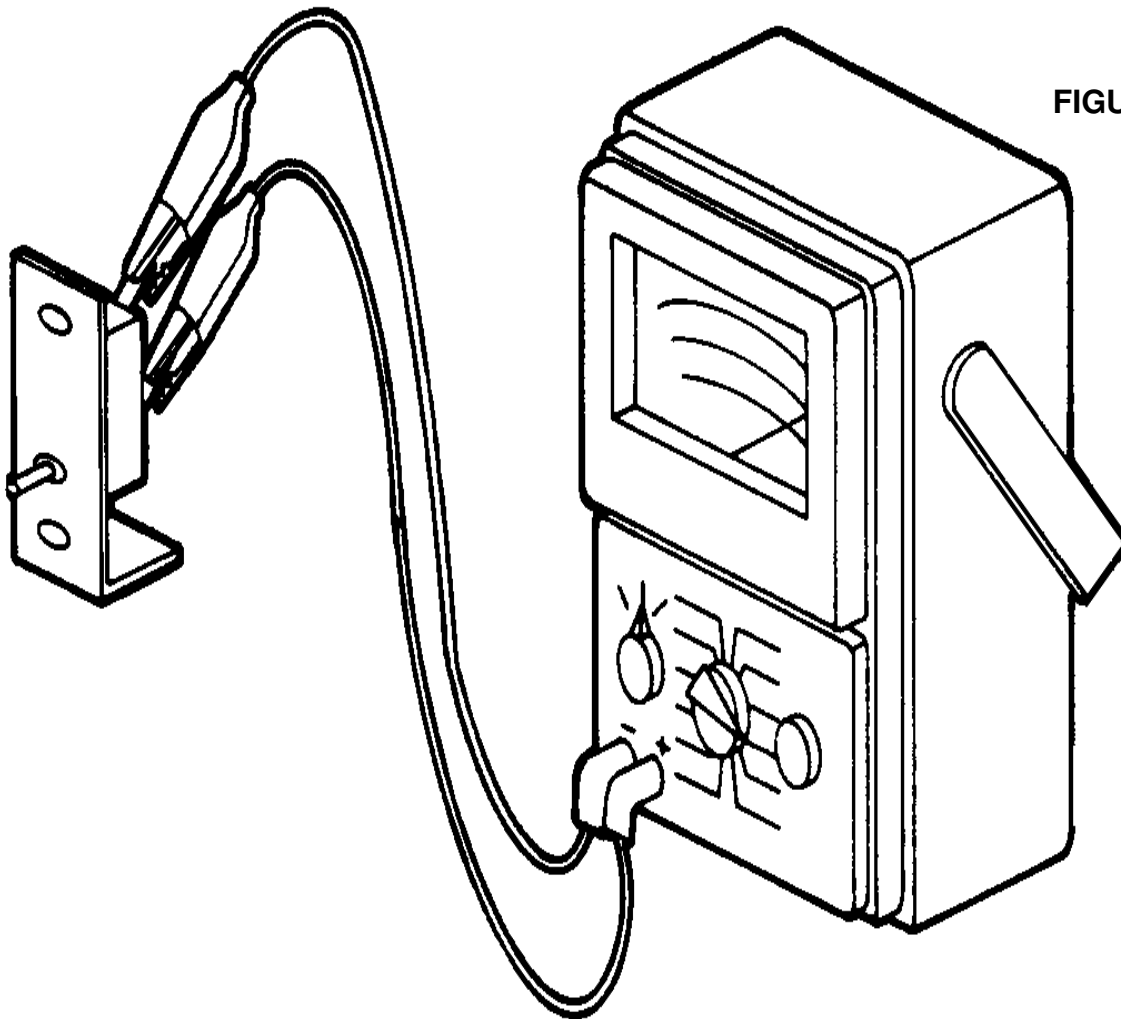

FIGURE 2
- (1) Disconnect the DC power.
- (2) Set the VOM on RX 1 scale.
- (3) Connect the positive meter lead to the red wire of the power supply, and the negative meter lead to the black wire. The meter should read between 3 and 45 OHMS, reading of less than 3 OHMS indicates the transistors are shorted, replace the oscillator.
6. Check for 12 VDC at the relay contacts and the thermostat, refer to the wiring diagram for the model you are working on to determine the wire colors and arrangement of the components. Figures 2, 4 and 5 show how to test the circuit breaker, thermostat, and relay.